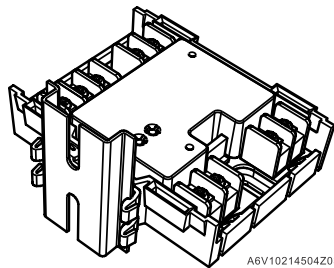

Fig. 2
- on a top hat rail (Fig. 2) (Order the accessories FDCH291 separately.)
2. Press the module and the installation feet against the top hat rail until the feet snap in (Fig. 2).